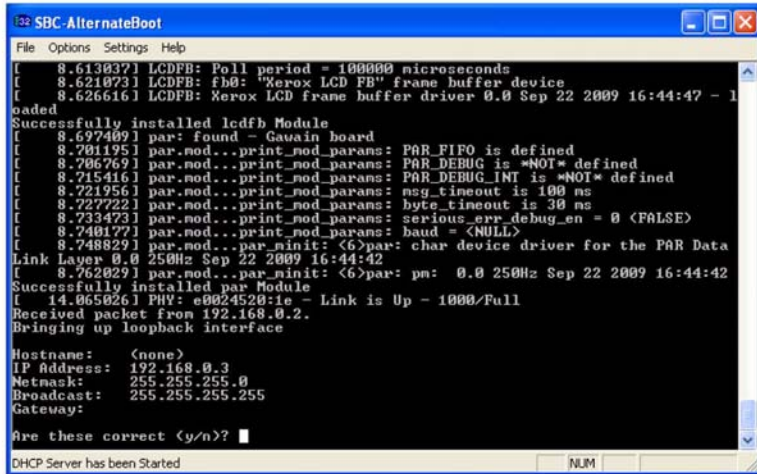

Figure 15 Settings menu
12. After file transfer, the settings menu is displayed in the terminal window, Figure 15.
Press 'y' at the prompt and continue. If the valid netmask is not set, press 'n' and change it to the value shown in Figure 15.